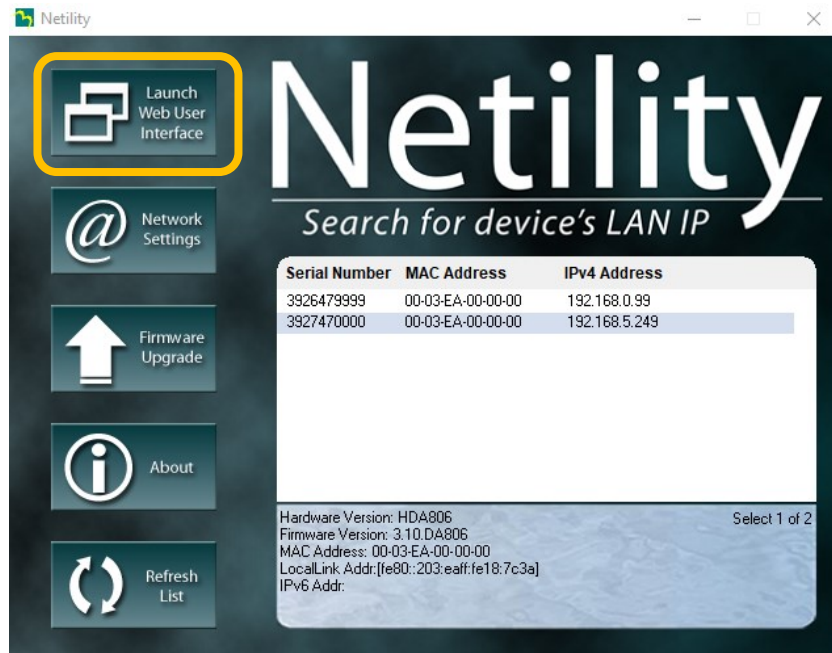

Fig. 5-7 Netility software main screen
- Locate and run the NETILITY software (Fig. 5-7)